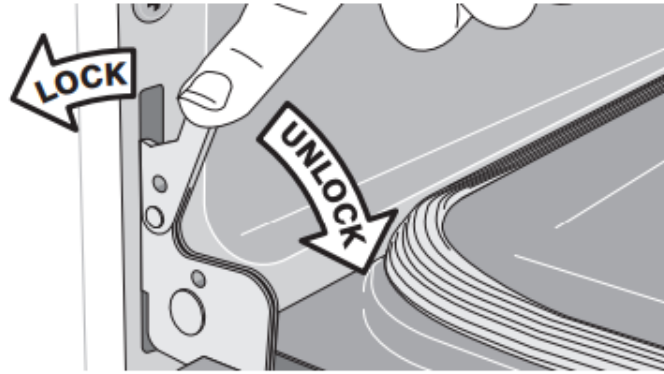
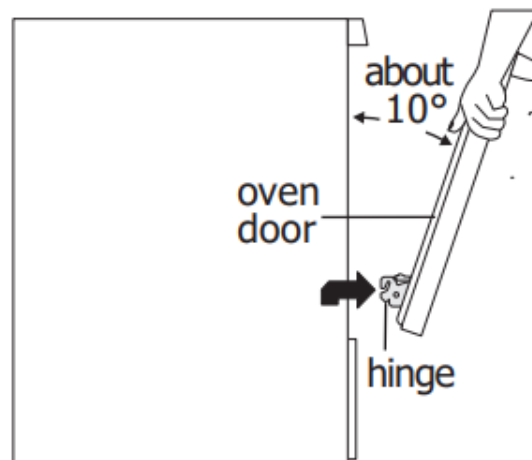

Figure 8: Door hinge locked
Figure 9: Unlocking door hinge
2. Pull up the lock located on each hinge support toward front of the oven until the lock stops. You may have to apply a little upward pressure on the lock to pull it up (Figure 8 and Figure 9).